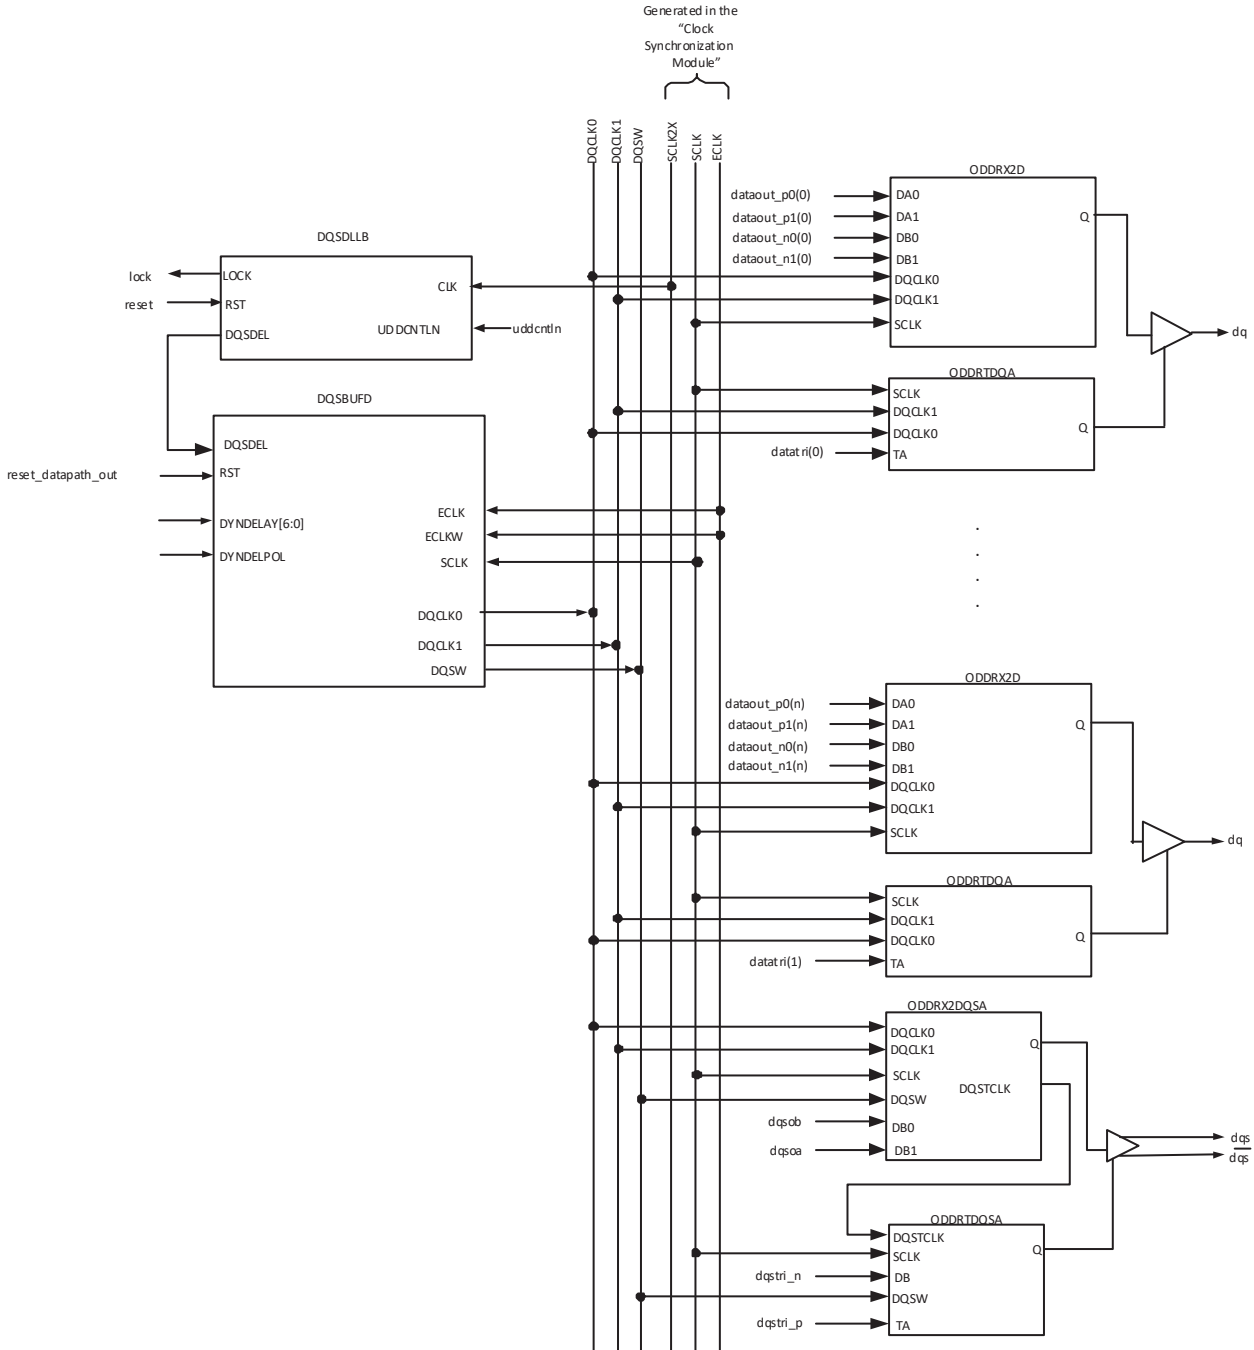

Figure 9.10 DDR3 Write Side Implementation for DQ and DQS Generation
9.11.1. DDR3 Data (DQ) and Strobe (DQS) Generation
Figure 9.10 shows the DDR3 write side implementation for data (DQ) and strobe (DQS) generation. The DQCLK0, DQCLK1 and DQSW are signals generated in the DQSBUFD module. ODDR2D implements the output DDR registers in x2 gearing mode required for DDR3 DQ generation. The ODDR2DQSA module is used to generate the DQS strobe output. For details on each element, refer to the DDR Software Primitives and Attributes section.
IPexpress is used to generate these signals. Figure 9.10 shows the module generated by IPexpress data (DQ) and strobe (DQS) generation.